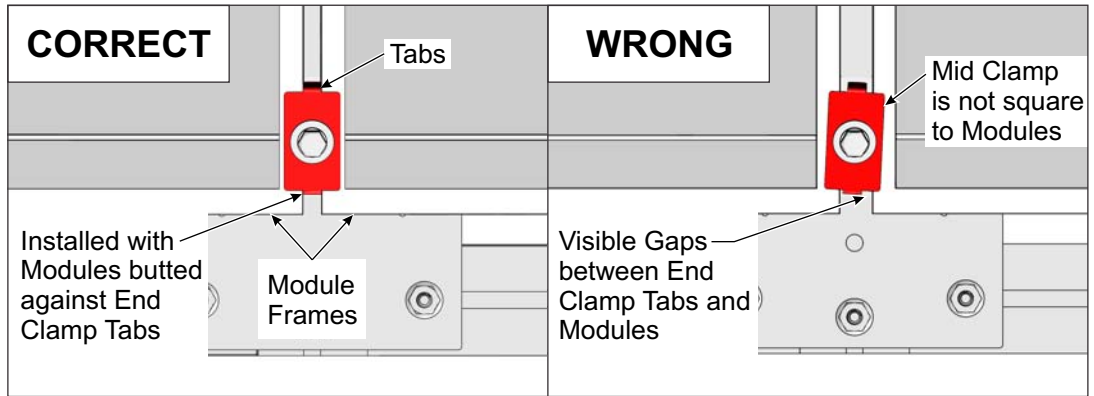

Figure 14-6: Correct and Wrong methods of installing Standard Mid Clamp
Secure the inside Module edges with Mid Clamps. Install two Mid Clamps per Module, one on each of the interior Tilt Brackets (Front and Rear) between two E-W Modules. (See Figures 14-6 and 14-7)
- K. Insert one 5/16 x XX inch bolt (length is dependent on thickness of PV Module) with lock and flat washers through the Mid Clamp and thread into the Tilt Bracket. Be sure that the tabs of the Mid Clamps rest between the two Modules and the Modules are butted up against the Mid Clamp tabs. **Torque to 14-18 ft-lbs.** (See Figures 14-6 and 14-7)